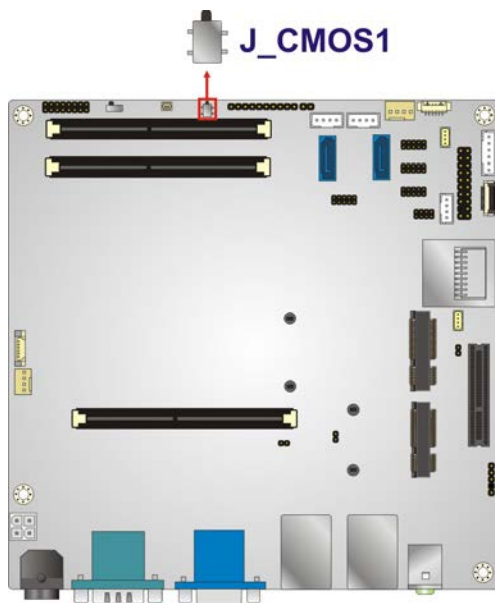

Figure 3-5: Clear CMOS Button Location
- CN Location:** See **Figure 3-5**
The location of the clear CMOS button is shown in **Figure 3-5**.